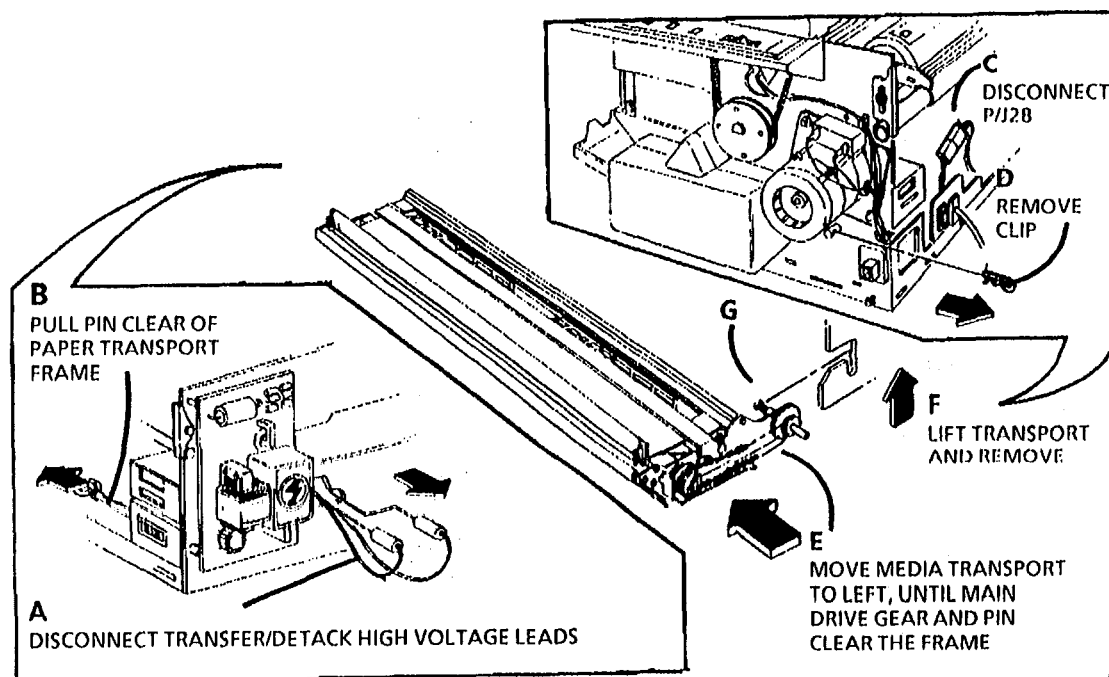

Figure 1. Removing the Media Transport
3. (Figure 1): Remove the media transport.